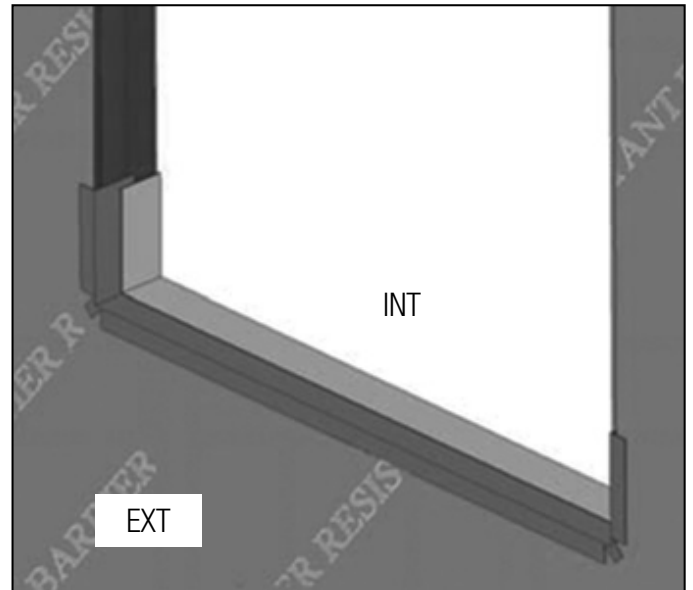

FIG. 7
C) Cut 1-1/2" slits at each end of the flashing as shown below. (Fig. 7)